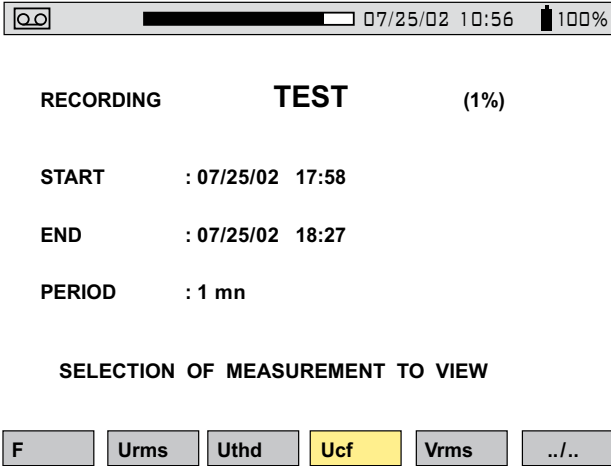
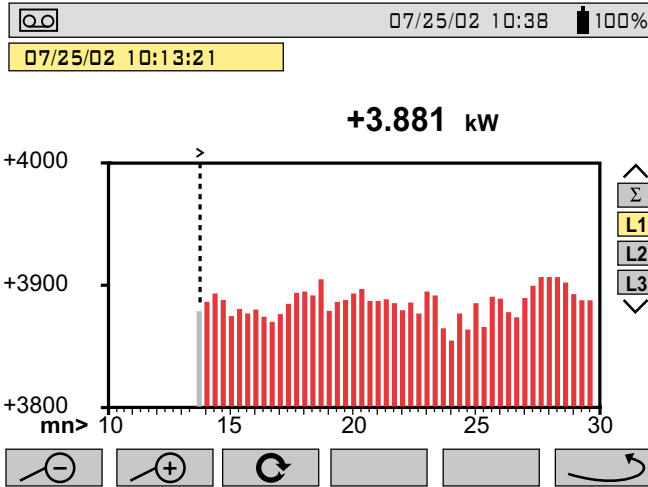

Figure 5-21
Figure 5-24
- Select the recording to be displayed using the  buttons. Then, open the recording by pressing the  button. A screen similar to figure 5-21 will appear.
- ① MIN, AVG and MAX values over the display period
- ② MAX value
- ③ AVG value
- ④ MIN value
- ⑤ Returns to the Measurement Selection Screen (see Fig. 5-21)
After returning to the Measurement Selection Screen (see Fig. 5-21) use the “...” button to view more recorded parameters, if necessary. Pressing the “W” button, will bring up a screen similar to Fig. 5-24 below.